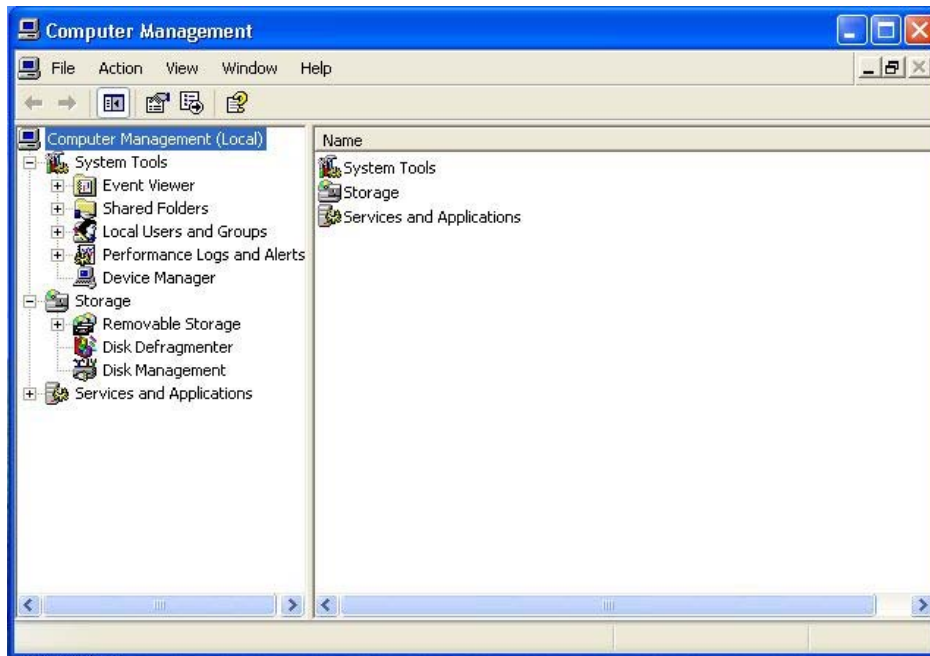

FIGURE 6-14. Computer Management Screen.
2. The *Computer Management* screen appears. Click “Disk Management” at the left side. See Figure 6-14.